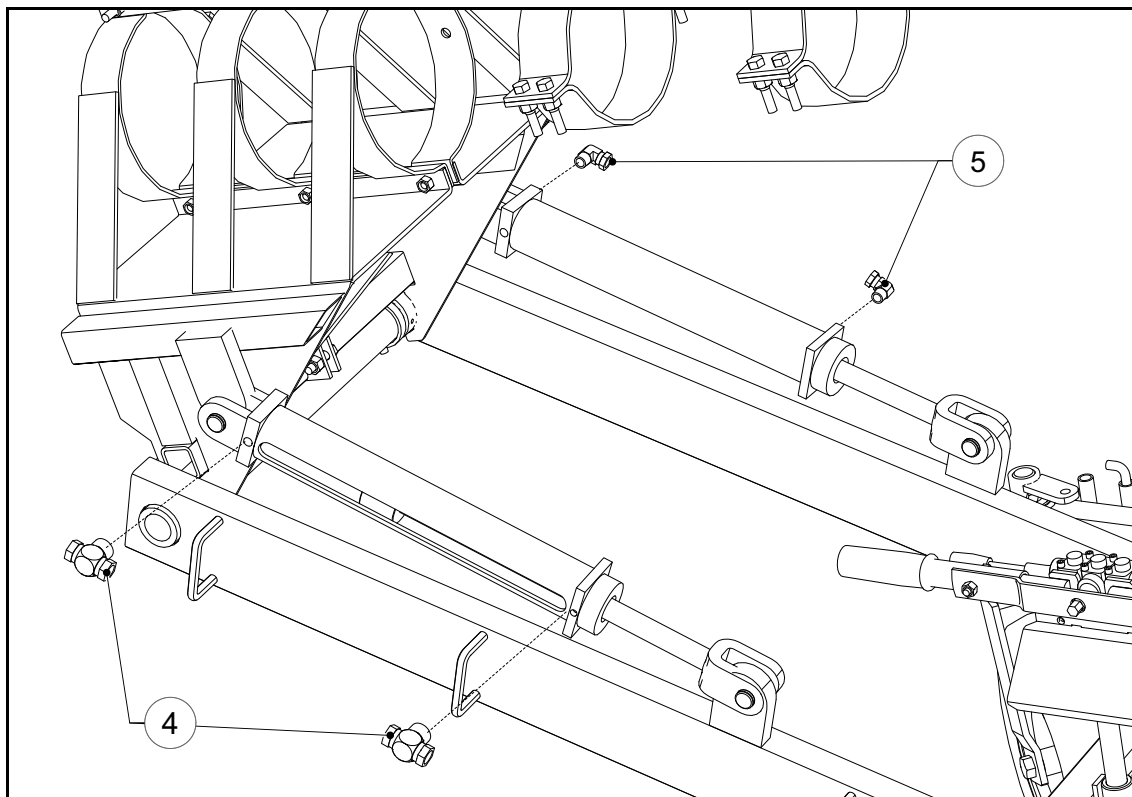

Figure 3.11 Attaching Fittings to the Wheel Move Hydraulic Cylinders
2. Attach hydraulic fittings (4, 5) to the wheel move hydraulic cylinders. See Figure 3.11.